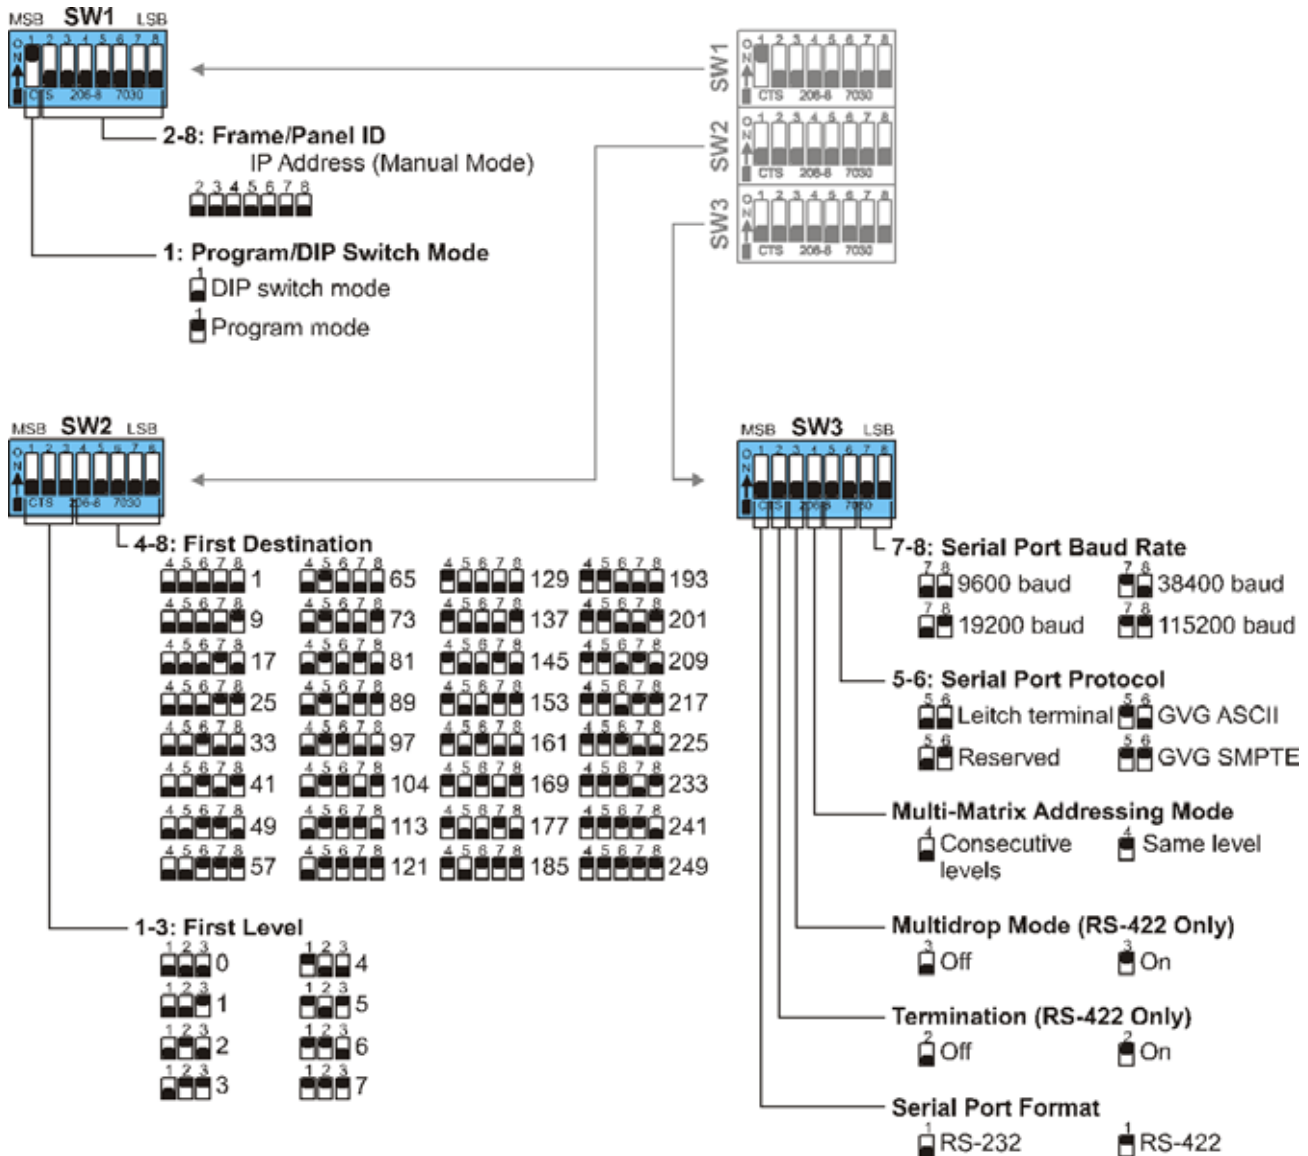

Figure 2-1 DIP Switches
- 2 Verify these DIP switch values on the logic controller module (see Figure 2-1 on page 28 in this initial setup guide):
- Make sure the SW1 DIP switch pole 1 (Program/DIP Switch mode) is set to Program mode (ON).